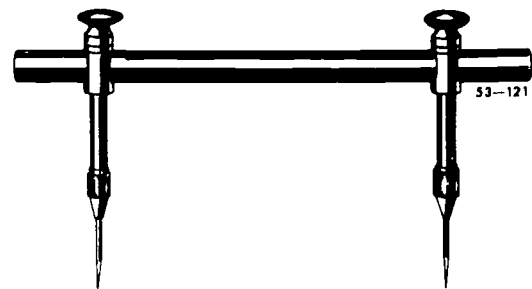

Figure 5-27. Trammel points.
**Trammel points.** We discussed dividers previously in this chapter, but we did not mention what to do if you need to scribe a circle or arc bigger than the reach of the largest available dividers. In this case, you could use a set of trammel points, shown in figure 5-27. Simple forms of this tool may easily be manufactured. The points must be able to slide along a suitable rod and have some kind of lock screw on them. You use them in the same way as dividers.